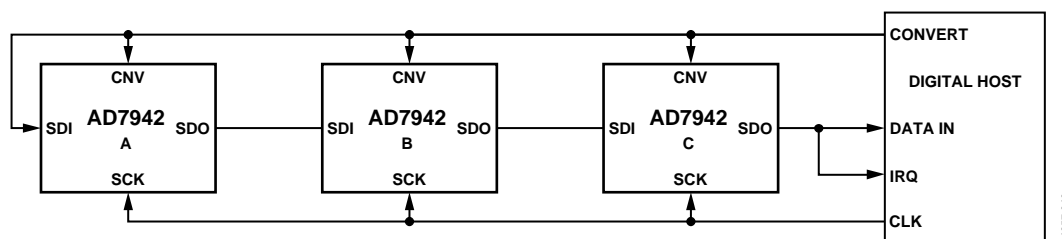
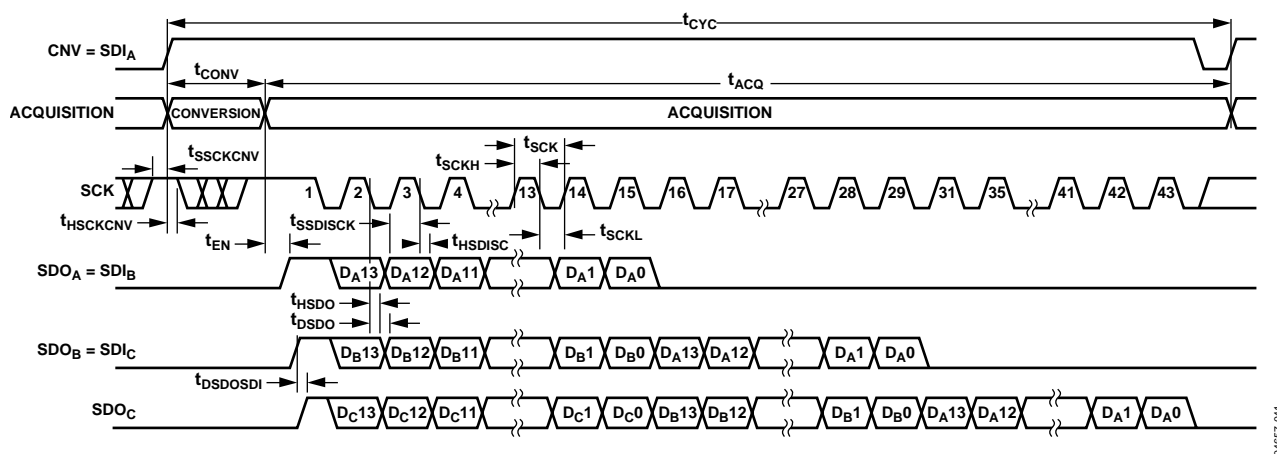

Figure 40. Chain Mode with Busy Indicator Connection Diagram
Figure 41. Chain Mode with Busy Indicator, Serial Interface Timing
- In the chain mode, if SCK is high during the CNV rising edge (see Figure 41).
This mode can also be used to daisy-chain multiple AD7942s on a 3-wire serial interface while providing a busy indicator. This feature is useful for reducing component count and wiring connections, e.g., in isolated multiconverter applications or for systems with a limited interfacing capacity. Data readback is analogous to clocking a shift register. A connection diagram example using three AD7942s is shown in Figure 40 and the corresponding timing is given in Figure 41.
Figure 40) SDO is driven high. This transition on SDO can be used as a busy indicator to trigger the data readback controlled by the digital host. The AD7942 then enters the acquisition phase and powers down. The data bits stored in the internal shift register are then clocked out, MSB first, by subsequent SCK falling edges. For each ADC, SDI feeds the input of the internal shift register and is clocked by the SCK falling edge. Each ADC in the chain outputs its data MSB first, and $14 \times N + 1$ clocks are required to readback the N ADCs. Although the rising edge can be used to capture the data, a digital host also using the SCK falling edge allows a faster reading rate and consequently more AD7942s in the chain, provided the digital host has an acceptable hold time. For instance, with a 5 ns digital host set-up time and a 3 V interface, up to eight AD7942s running at a conversion rate of 220 kSPS can be daisy-chained to a single 3-wire port.